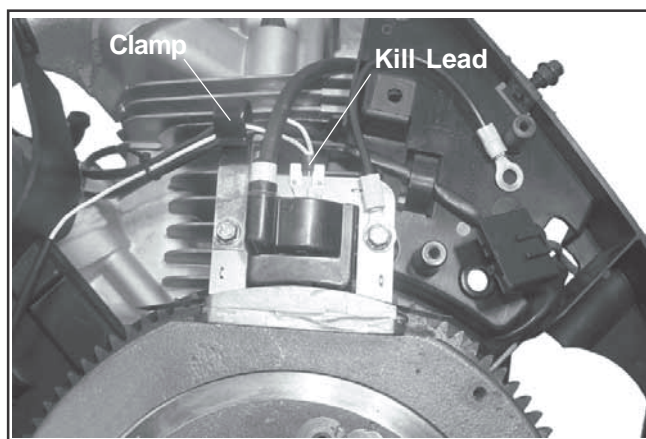

Figure 10-81. Ignition Module Mounting Details.
2. Connect the ground lead to the single kill tab and install the modules onto the crankcase bosses so the tab is away from you (in). The spark plug lead should be towards you (out). Mount the wiring harness clamp with the loop **up**, on the starter (No. 1) side inner module screw and route harness through it. Attach the rectifier-regulator ground lead to the outer screw. See Figure 10-81.